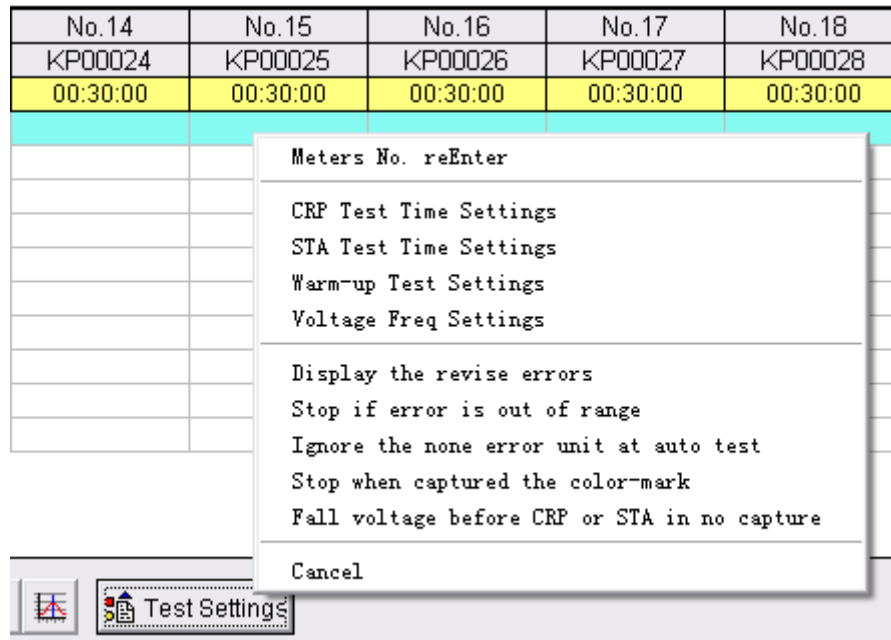

FigureA2-6
3. Repeatable Test(FigureA2-6)